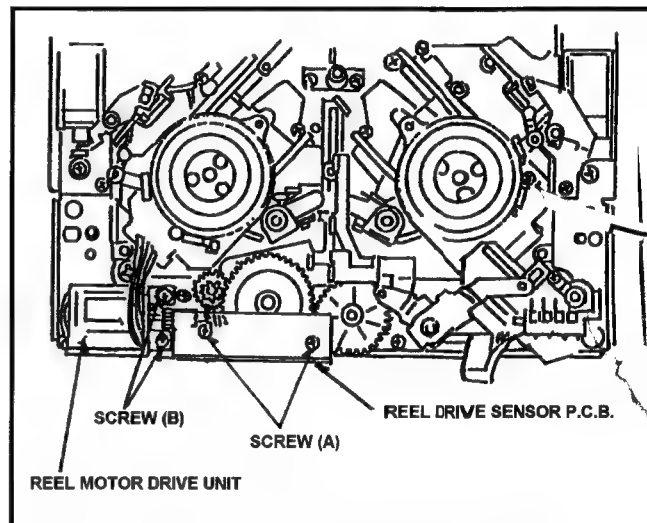

Fig.6-20-1 Removal of Reel Drive Motor Unit
5. Unscrew the 2 screws (B) and remove the Reel Drive Motor Unit as shown in Figure 6-20-1.